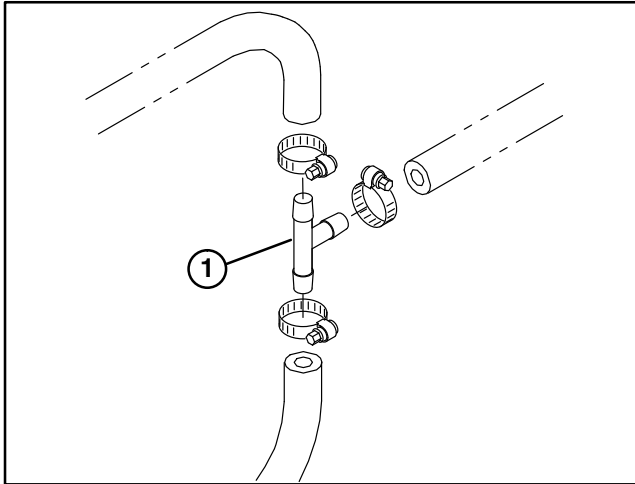

Figure 8
(Fig. 8–16)
4. Mount the hoses to new T-fitting with hose clamps removed, as shown in figure 8.